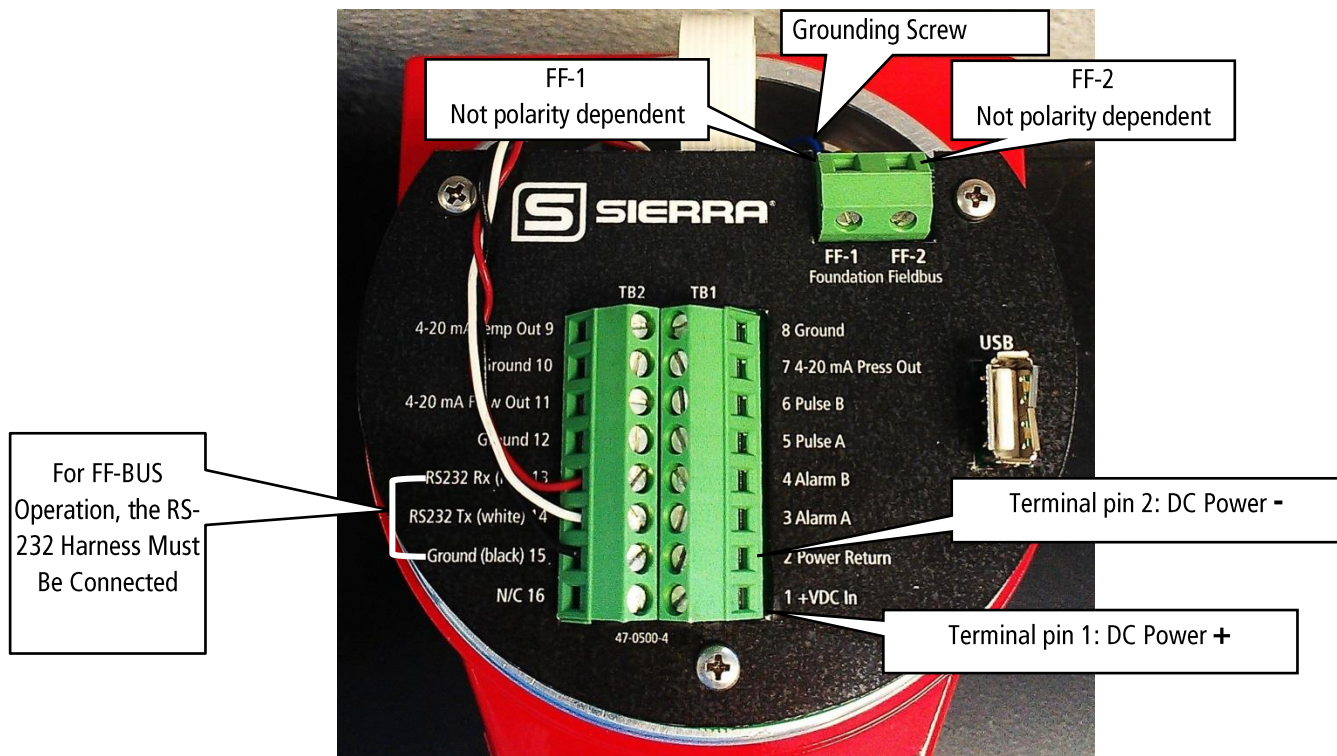

Figure 1: Basic Meter Connections
Power Requirements: The 640i/780i meters use 24 VDC (+/-10%) at 1 Amp. Because of the current needed, the meter cannot be powered off the H1 network. The separate 24 VDC (+/-10%) power supply is connected to terminals 1 and 2 (See Figure 1).
Data Connections: The Foundation Fieldbus H1 Network connections are labeled as FF-1 and FF-2 (See Figure 1). These are not polarity dependent. If multiple shield grounds are being used, use the earth grounding screw shown in Figure 1.
1. Connect the 24 VDC (+/-10%) power supply to terminal pins 1 and 2 as shown in Figure 1.
2. Connect your Foundation Fieldbus network to FF-1 and FF-2 shown in Figure 1.